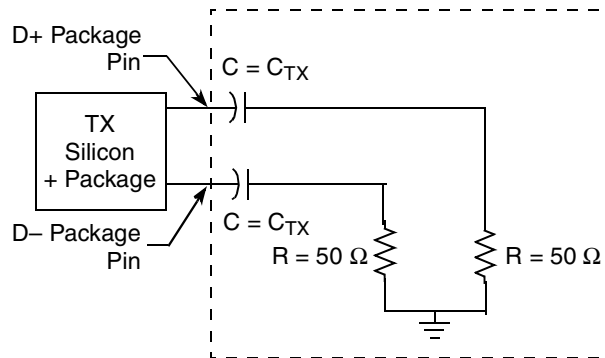

Figure 58. Test/Measurement Load
1. Specified at the measurement point into a timing and voltage compliance test load as shown in Figure 58 and measured over any 250 consecutive Tx UIs.
- Specified at the measurement point and measured over any 250 consecutive UIs. The test load in Figure 58 must be used as the Rx device when taking measurements. If the clocks to the Rx and Tx are not derived from the same reference clock, the Tx UI recovered from 3500 consecutive UI must be used as a reference for the eye diagram.
- Specified at the measurement point into a timing and voltage compliance test load as shown in Figure 58 and measured over any 250 consecutive Tx UIs.
The AC timing and voltage parameters must be verified at the measurement point. The package pins of the device must be connected to the test/measurement load within 0.2 inches of that load, as shown in Figure 58.
2. Specified at the measurement point and measured over any 250 consecutive UIs. The test load in Figure 58 must be used as the Rx device when taking measurements. If the clocks to the Rx and Tx are not derived from the same reference clock, the Tx UI recovered from 3500 consecutive UI must be used as a reference for the eye diagram.